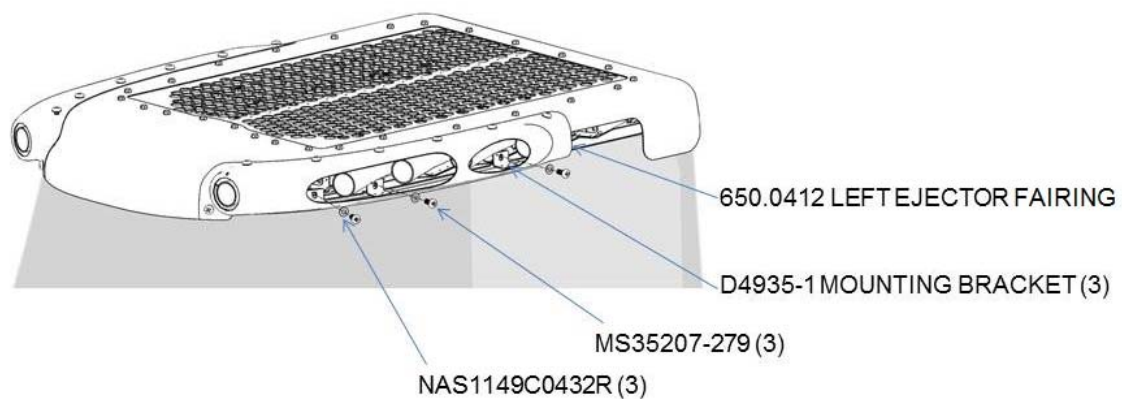

Figure 11 – D4935-1 Mounting Bracket Installation
3.1.21. Assemble the D4935-1 Mounting Brackets to the Mating flanges on the left side of the D4925-041 Mounting Plate using Qty (3) MS35207-279 Screws and Qty (3) NAS1149C0432R Washers per Figure 11.